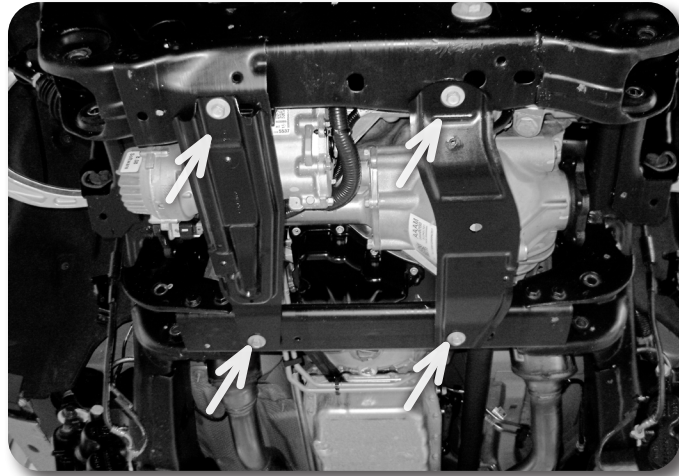

Figure 11
23. Remove the crossmember struts. **Figure 11**